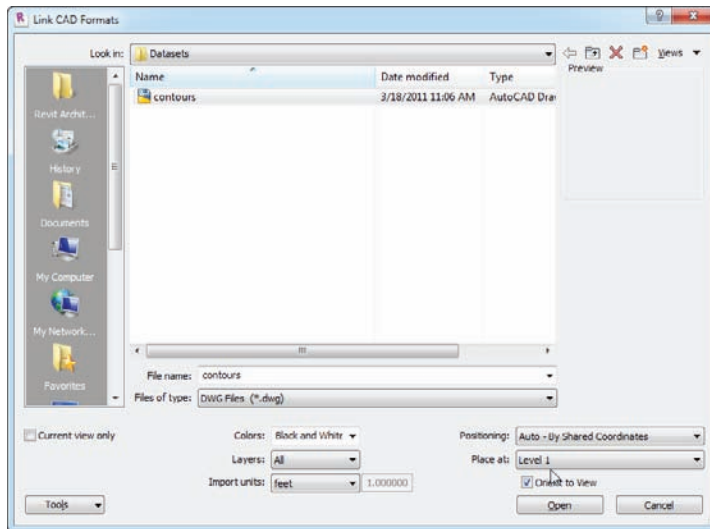

FIGURE 18.31 Changing the link settings
6. Make sure Orient To View is selected. (See Figure 18.31.)